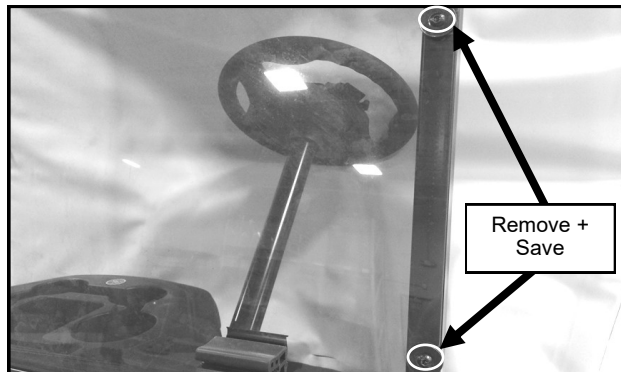

Fig. 1.8 (windshield removal - left side)
**1.8** Remove the windshield and its mounting hardware, set aside per figure 1.8